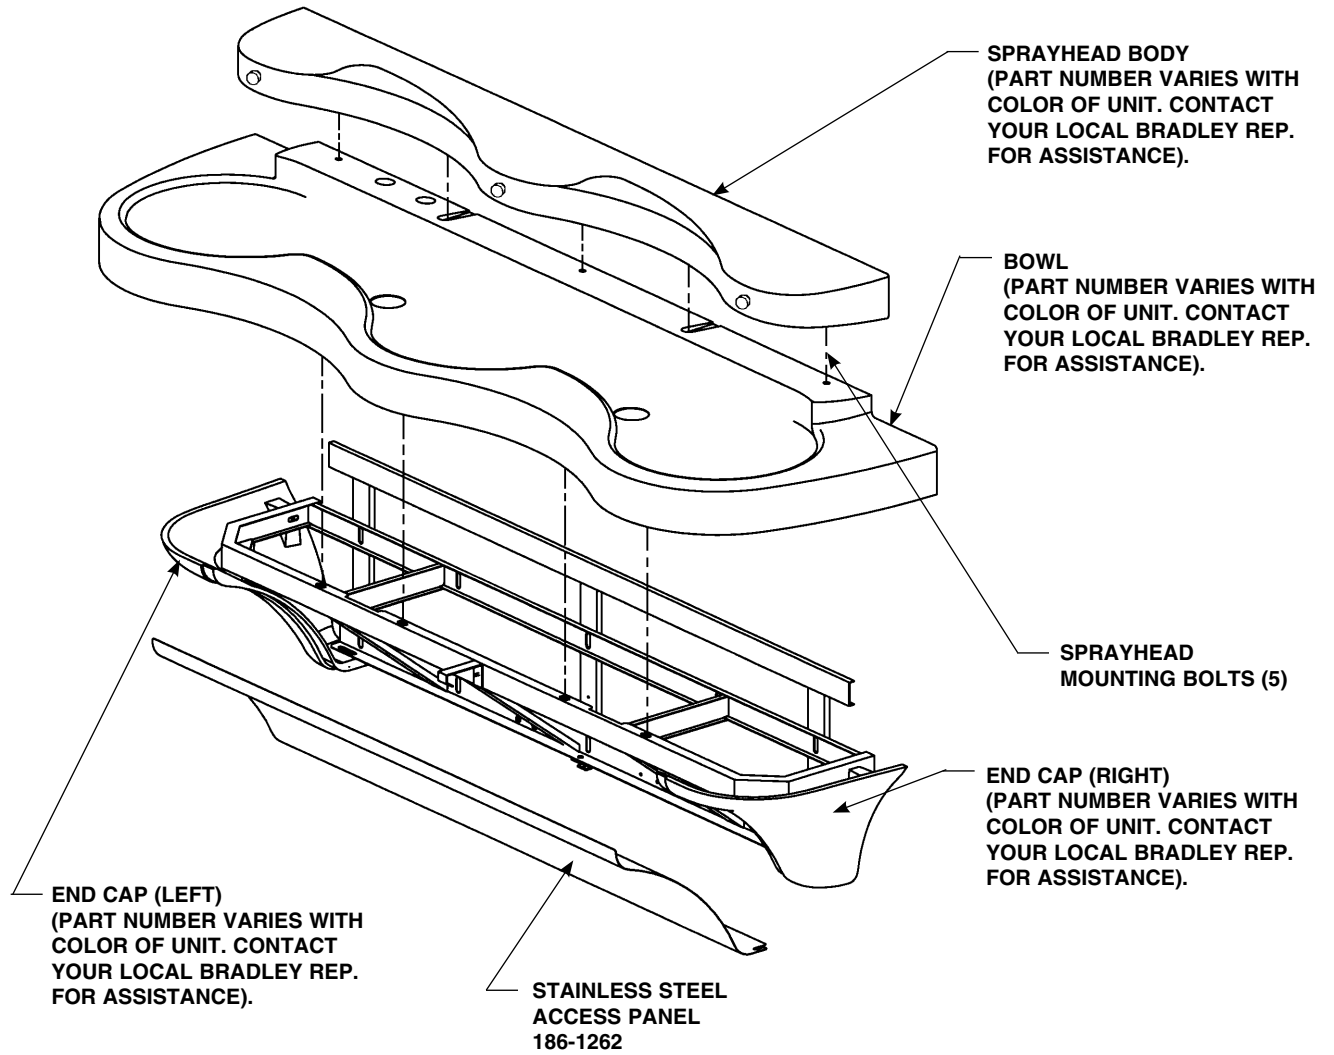

Figure 9
Remove (5) bolts located underside of bowl neck (see Figures 9 and 11). Carefully remove sprayhead from bowl.